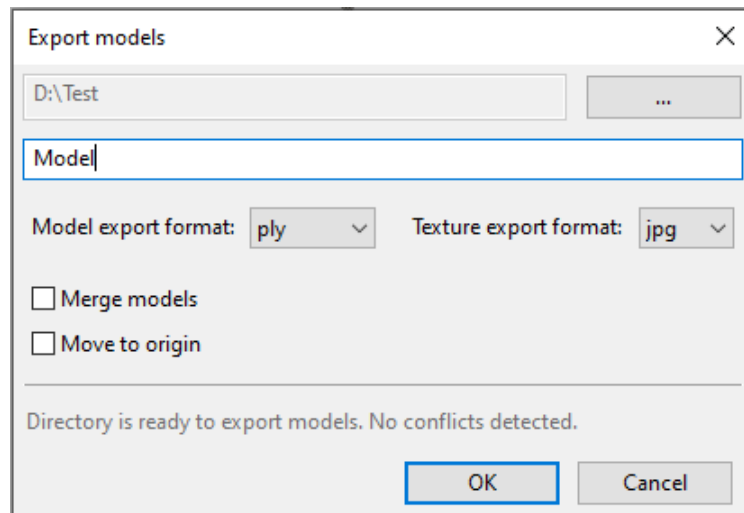

Figure 121: Dialog for exporting meshes.
2. Right-click and select the *Export* → *Meshes* option, or go to the *File* → *Export* → *Meshes* command. A dialog window will appear (Figure 121).